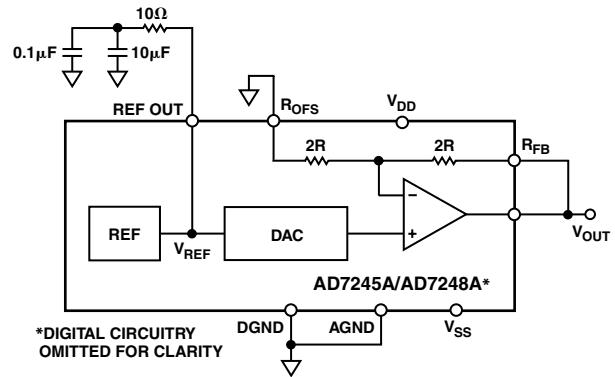

Figure 8. Unipolar (0 to 10 V) Configuration
*REFERENCE DECOUPLING COMPONENTS AS PER FIGURE 8
The first of the configurations provides an output voltage range of 0 V to 10 V. This is achieved by connecting the bipolar offset resistor, R_{OFS} , to AGND and connecting R_{FB} to V_{OUT} . In this configuration the AD7245A/AD7248A can be operated single supply ($V_{\text{SS}} = 0 \text{ V} = \text{AGND}$). If dual supply performance is required, a V_{SS} of -12 V to -15 V should be applied. Figure 8 shows the connection diagram for unipolar operation while the table for output voltage versus the digital code in the DAC latch is shown in Table III.